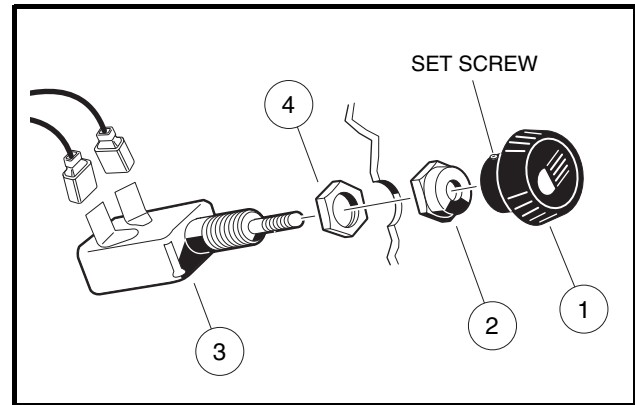

Figure 12-45 Light Switch
3. Loosen the set screw locking the light switch knob (1) to the shaft (**Figure 12-45, Page 12-38**).
6. Remove the outer nut (2) from the light switch (3) and remove.
2. Thread the check nut (4) onto the switch until an equal number of threads show on both sides. Install to the dash panel with nut (2) on the outside of the dash and tighten the nut to 14 in-lb (1.6 N·m) (**Figure 12-45, Page 12-38**).